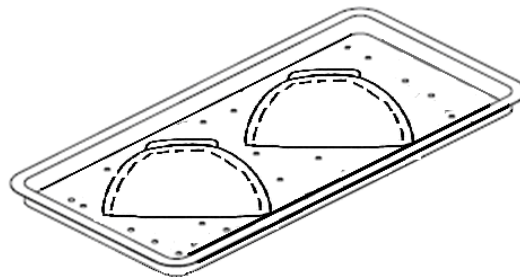

Figure 6
9. Round pans, trays, p down as shown in Figure 6.